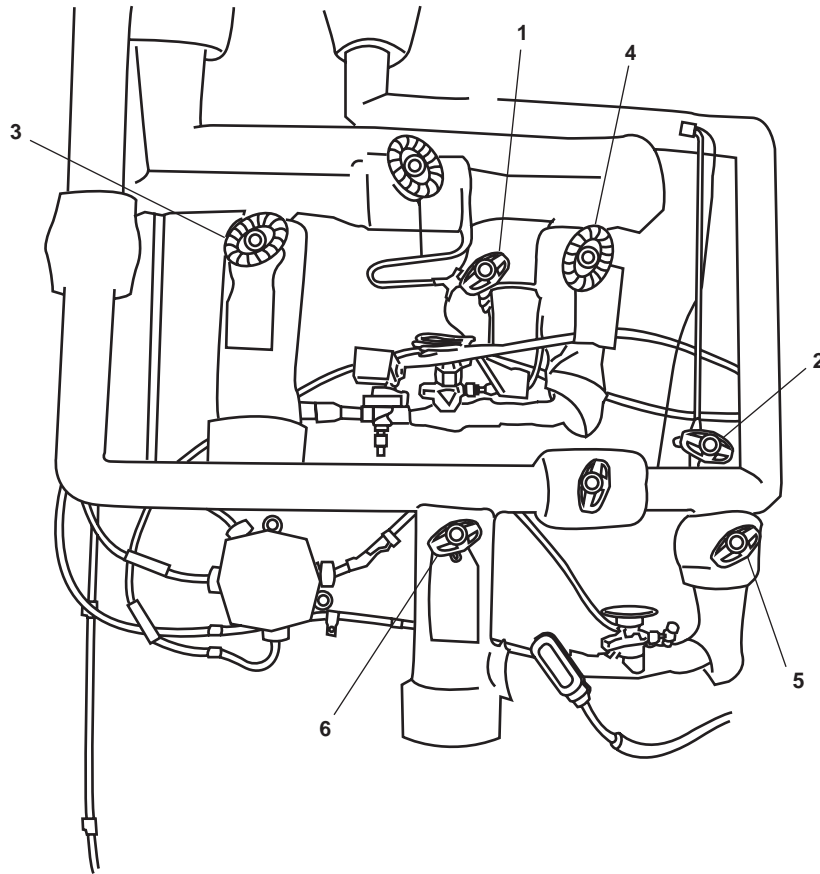
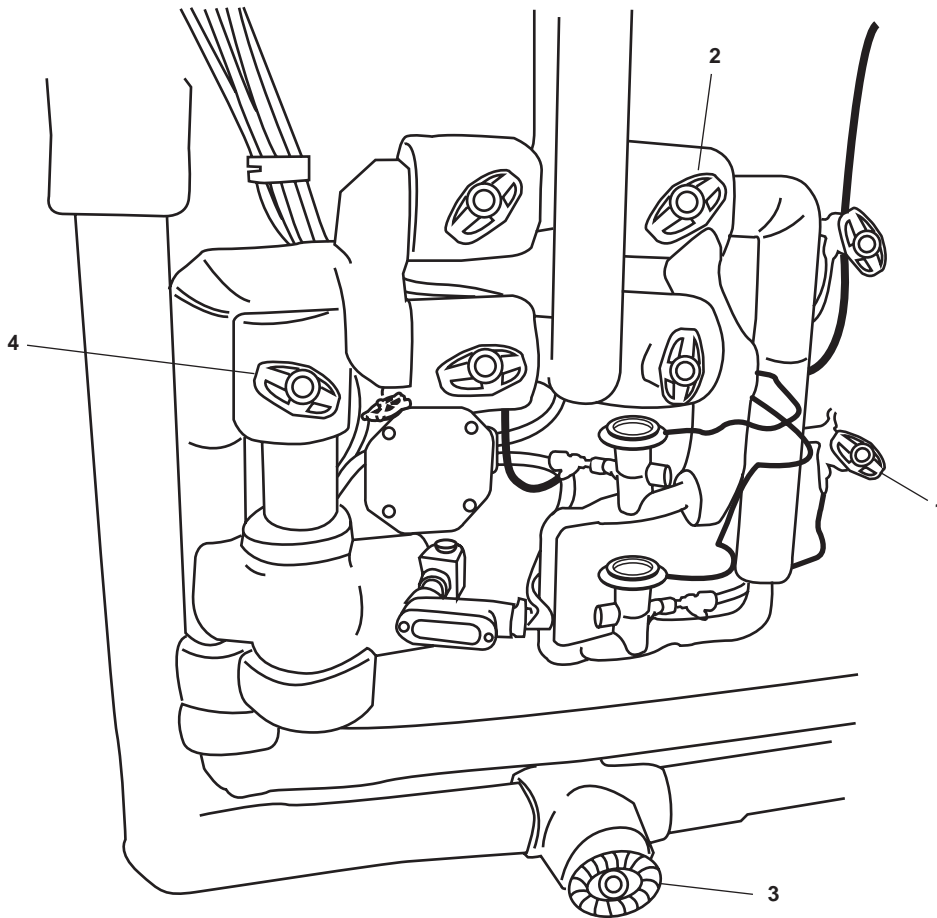

Figure 20. Main Deck Fan Room Air Conditioning Refrigerant Valves
Figure 21. 01 Level Fan Room Air Conditioning Refrigerant Valves
- (1) In the main deck fan room, OPEN the following valves:
- (a) RFAC-29, EQL LINE (figure 20, item 1), air conditioning 2 equalizing line
- (b) RFAC-30, EQL LINE (figure 20, item 2), air conditioning 1 equalizing line
- (c) RFAC-33, TXV/STNR/LLSV COV, R1-25-2, 4 COIL (figure 20, item 3), TXV strainer and low level cut out from air conditioning 2
- (d) RFAC-34, TXV COV, R01-32-2 (figure 20, item 4), TXV strainer and low level cut out from air conditioning 2
- (e) RFAC-36, TXV/STNR/LLSV COV, R1-25-2, 8 COIL (figure 20, item 5), strainer and low level cut out from air conditioning 1
- (f) RFAC-37, TXV/STNR/LLSV COV, R1-25-2, 8 COIL (figure 20, item 6), strainer and low level cut out from air conditioning 1
- (g) RFAC-38, 4 COIL SUCT, COV, R1-25-2 (figure 20, item 7), coil suction
- (h) RFAC-42, 8 COIL SUCT COV, R1-25-2 (figure 20, item 8), coil suction
- (2) In the 01 level fan room OPEN the following valves:
- (a) RFAC-31, 8 EQL LINE (figure 21, item 1), equalizing line
- (b) RFAC-34, TXV COV, R01-32-2 (figure 21, item 2), TXV outlet
- (c) RFAC-40, COIL SUCT COV, R01-32-2 (figure 21, item 3), coil suction
- (d) RFAC-35, TXV COV, R01-32-2 (figure 21, item 4), TXV inlet
- (1) RFAC-39, LIQUID LINE CRVR CO. liquid line crossover cut out (figure 20, item 1)
- (2) RFAC-41, SUCT LINE CRSVR COV. suction line crossover cut out (figure 20, item 2)